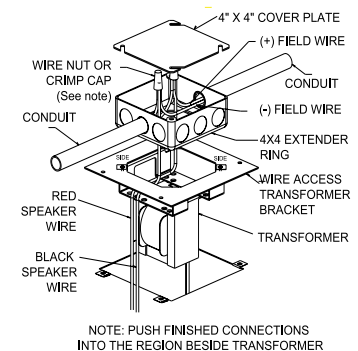

Fig. 5: Transformer Settings (32W)
- **TRANSFORMER SETTINGS** (Fig. 5):